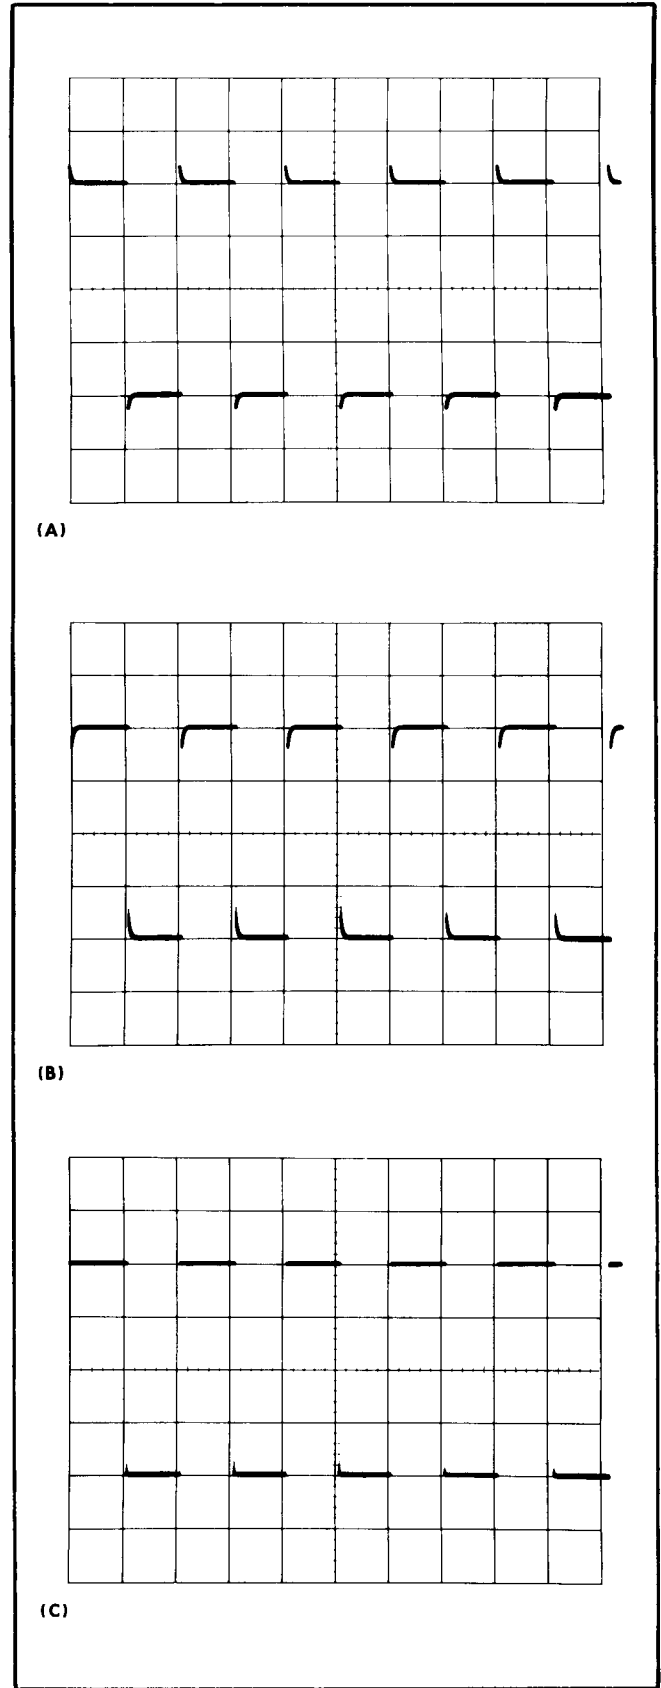

Fig. 5-24. Typical waveforms showing (A) and (B) C199B misadjusted and (C) C109B correctly adjusted.
- f. CHECK—for optimum flat top on the square wave as shown in Fig. 5-24, at each of the Calibrator and VOLTS/DIV switch positions shown in Table 5-6.
- g. ADJUST—to give optimum flat top on the square wave as shown in Fig. 5-24, at each of the Calibrator and VOLTS/DIV switch positions shown in Table 5-6.